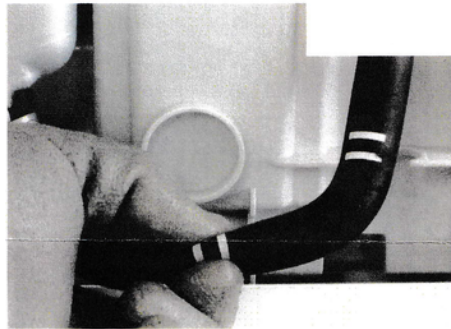

FIGURE 5
2. Using a pair of pinch pliers, clamp the tube so the detergent does not flow from the bulk tank into the dispenser box. The tube is pretty flexible and does not take much pressure to clamp it closed. Drain hose and or Air-conditioning pinch-off pliers both work well. *See Figure 5.*